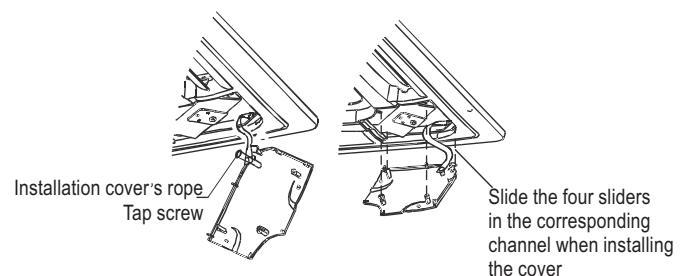

Fig.1-14
- Fasten the rope of installation cover on the bolt of the installation cover.(Refer to Fig.1-14-left)
- Press the installation cover into the panel slightly.(Refer to Fig.1-14-right)